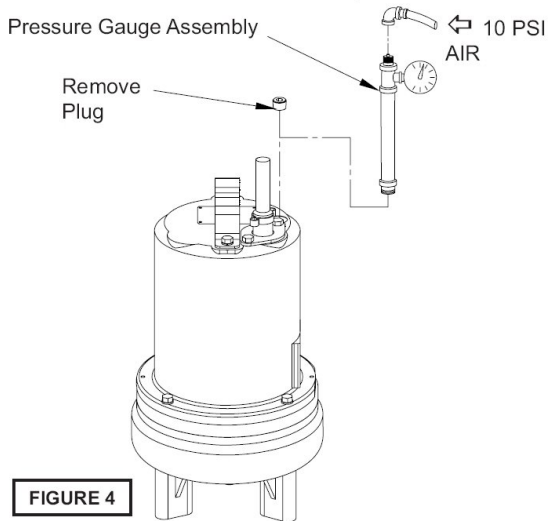

FIGURE 4
Pumps that have been disassembled, Motor Housing: If the pump has been disassembled, the oil should be drained before a pressure test, as described in section F-1.1. Remove pipe plug (27) from motor housing (5). Apply pipe sealant to pressure gauge assembly and tighten into hole (See Figure 4).
The pressure test may be done with the oil at its normal level. Remove pipe plug (27) from motor housing (5). Apply pipe sealant to pressure gauge assembly and tighten into hole (see Figure 4). Pressurize motor housing to 10 P.S.I. Use soap solution around the sealed areas above the oil level and inspect joints for "air bubbles". For sealed areas below the oil level, leaks will seep oil.